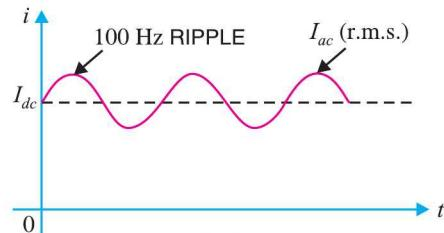

Fig. 6.39
**Mathematical analysis.** The output current of a rectifier contains d.c. as well as a.c. component. The undesired a.c. component has a frequency of 100 Hz (i.e. double the supply frequency 50 Hz) and is called the *ripple* (See Fig. 6.39). It is a fluctuation superimposed on the d.c. component.